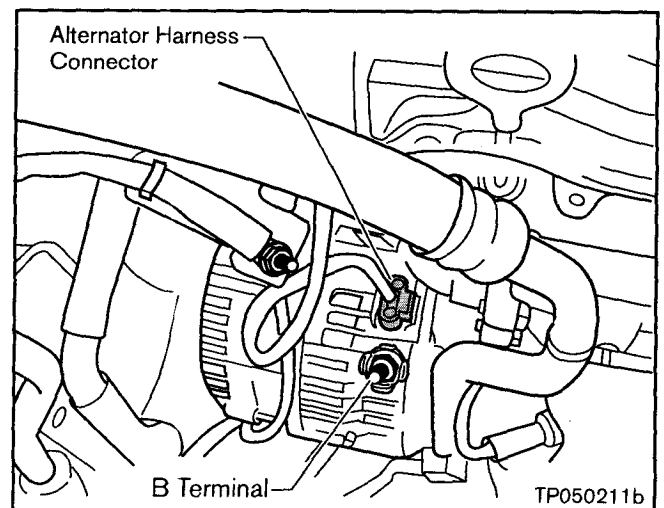

Figure 17
15. Disconnect the Alternator Harness Connector (see Figure 17).